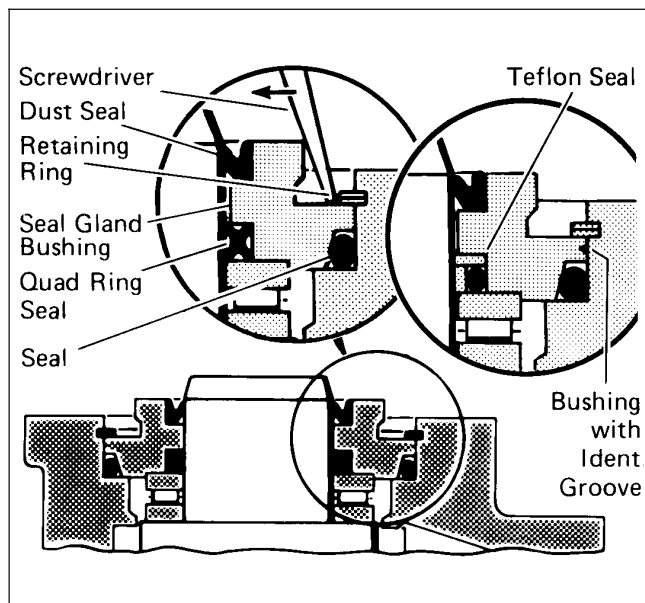

Figure 60
14. Install 1-1/4" diameter dust seal in seal gland bushing, flat or smooth side of dust seal must face down towards bushing, see Fig. 60.
15. Install the quad-ring seal in seal gland bushing. Smooth seal in place with your finger. Do not use any seal that falls freely into pocket of bushing, see Fig. 60.